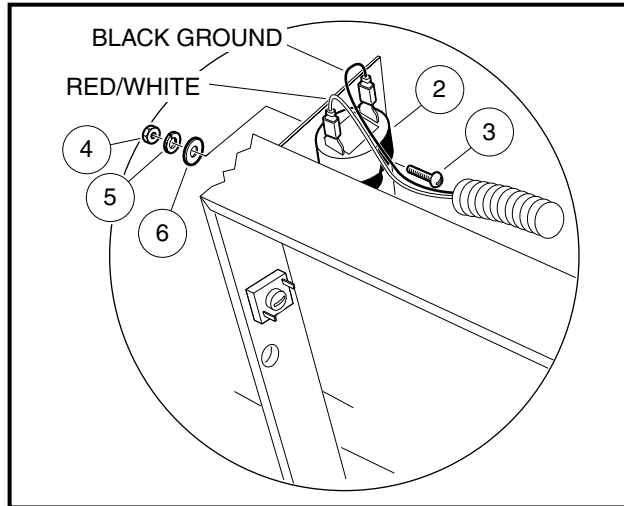

Figure 12a-24 Front Reverse Warning Buzzer
1. Install the two 4-40 x 3/4-inch machine screws (3) through the buzzer (2) bracket tab and through the frame.
2. Attach the flat washers (6), lock washers (5), and secure with nuts (4). Tighten to 14 in-lb (1.6 N·m) (**Figure 12a-24, Page 12a-23**).
4. Disconnect the wires from the reverse buzzer limit switch (4) located on the back of the Forward/Reverse assembly (**Figure 12a-22, Page 12a-21**).
5. Remove the nuts (2) and washers (6) from the lockout cam limit switch (5) and slide the lockout cam limit switch off of the screws. Do not disconnect the wires.
6. Remove the spacers (9) from the reverse buzzer limit switch (4) and slide the reverse buzzer limit switch off the screws.